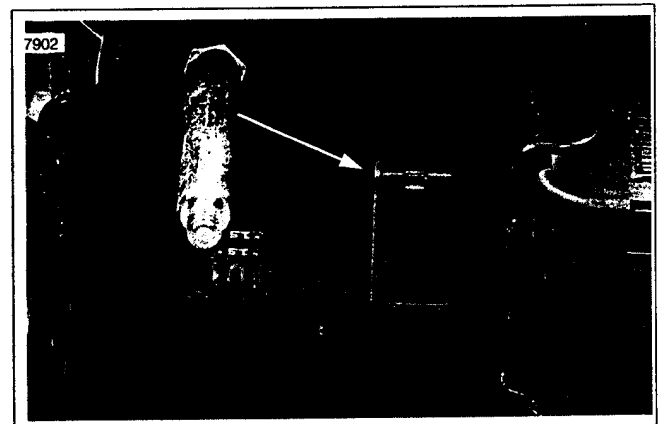

Figure 5-5. Starter Relay
5. See Figure 5-5. Remove starter relay.
1. See Figure 5-5. Install starter relay.